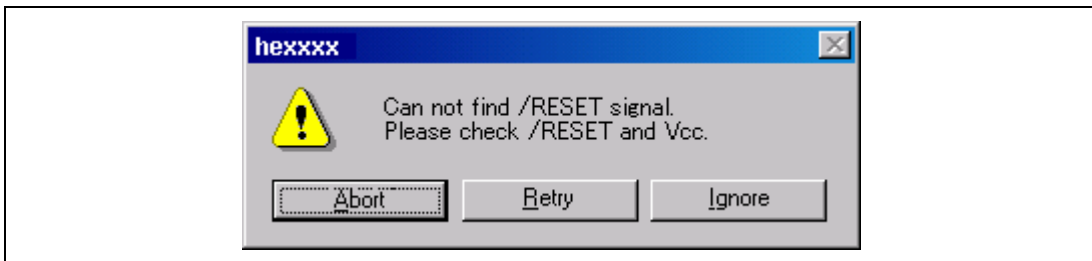

Figure 4.11 [Can not find /RESET signal] Dialog Box
- Notes: 1. If the emulator is not initiated, the following dialog boxes shown in figures 4.11 through 4.15 will be displayed.